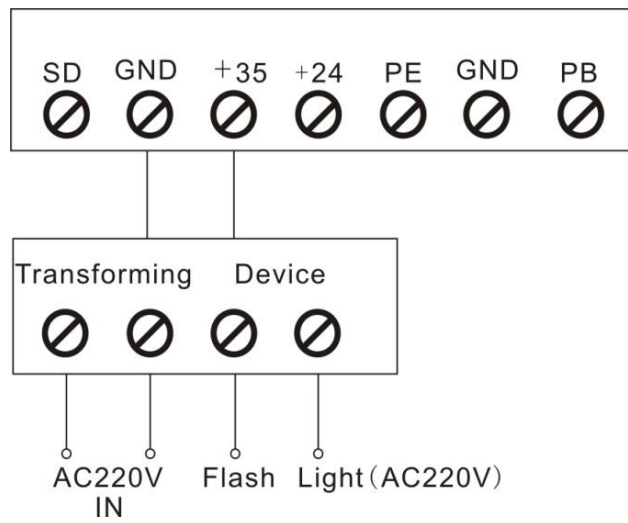

**Fig. 11**
Connecting a touch off switch to this terminal (Fig.11), you can use the switch when maintaining or the transmitter is left in garage.
3. Photo beam/switch control connection (Fig.11, Fig.12)